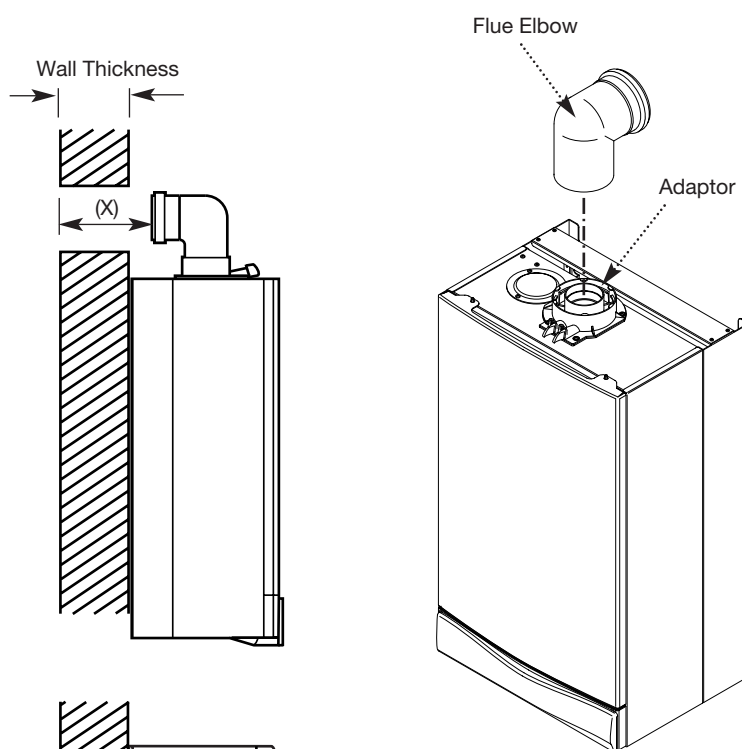

Fig. 21
2. Locate the flue elbow on the adaptor at the top of the boiler. Set the elbow to the required orientation (Fig. 21).